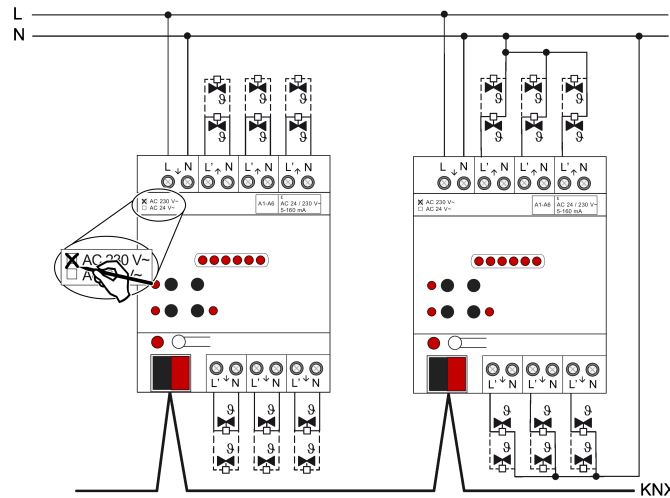

Figure 3: Connection for AC 230 V actuators (connection examples)
- Connect AC 230 V valve drives according to the connection diagram (see figure 3). The neutral conductors of the actuators can either be connected directly to the N terminals of the outputs of the heating actuator (left-hand connection example) or, alternatively, jointly with a suitable N potential (e.g. N conductor terminal in the distributor) (right-hand connection example). It is not absolutely necessary to connect the neutral conductor of the actuators directly to the actuator.